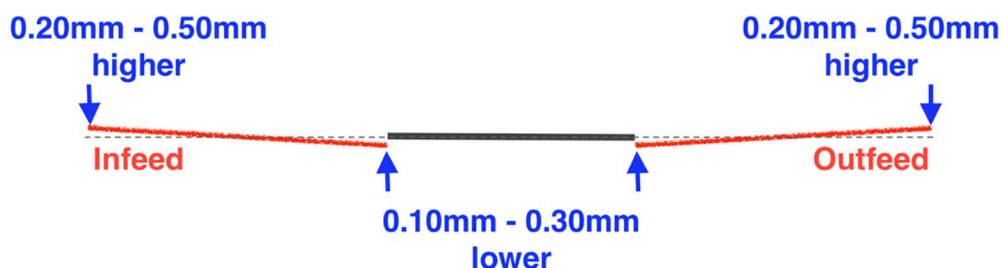

FIG 6
2. The ideal setup is shown in the picture. SEE FIG 6.